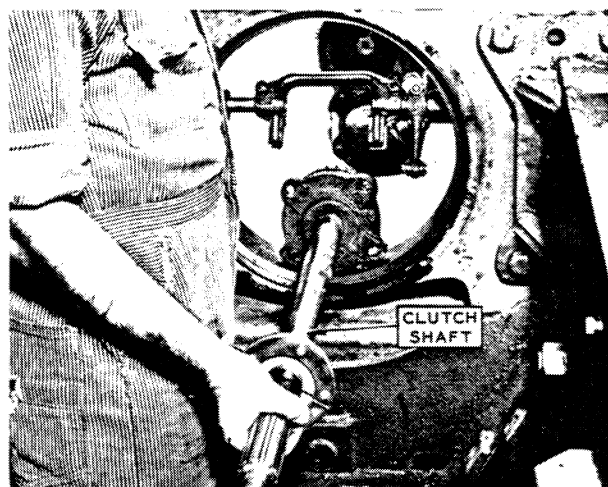

FIG. 6
3. Remove 4 capscrews in bearing cage and pull shaft and gear from case, see Fig. 6.